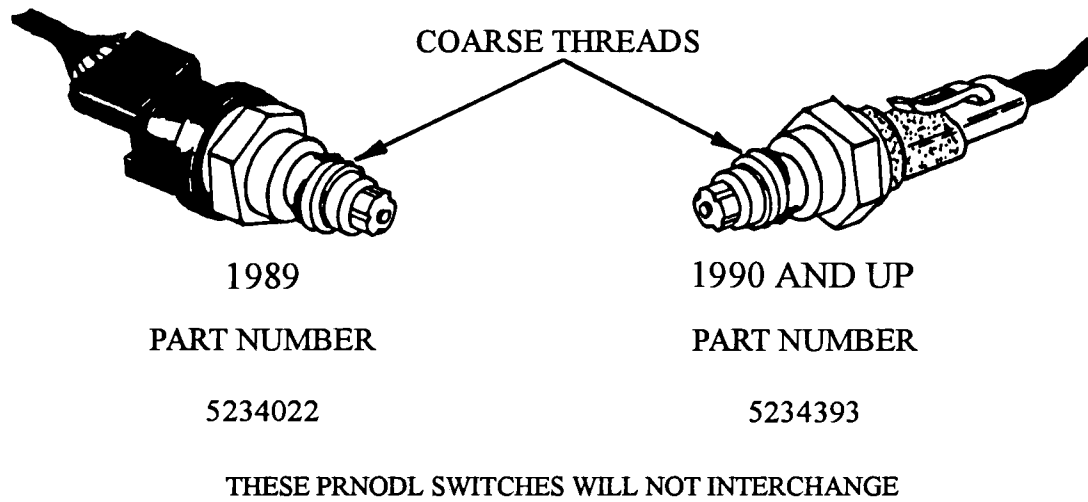

Figure 21
- (1) **PRNODL SWITCH AND CONNECTOR** - The PRNODL Switch and its wiring harness connector have changed for 1990, and can be identified visually (See Figure 21). These PRNODL Switches WILL NOT interchange with one another.
NOTE: Each of the new for 1990 switches may look similar at first glance, but the PRNODL switch features a "Coarse" thread, while the Neutral Safety switch is black and features "Fine" threads. (See Figures 21 and 22).